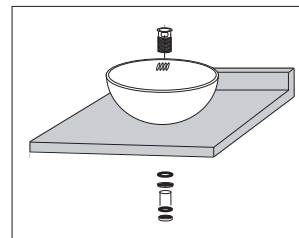

Figure 7
7. Position lavatory sink on countertop as shown. Secure lavatory to the countertop by installing drain through drain hole. (Figure 7)